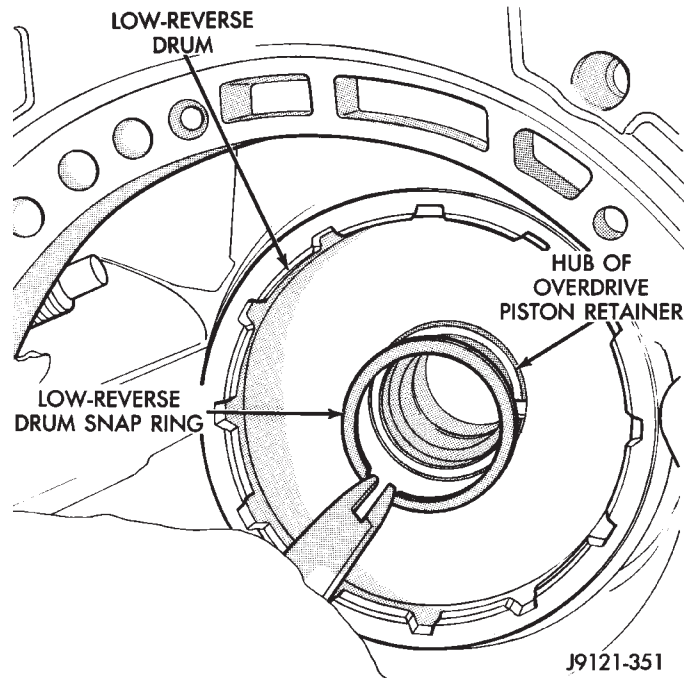

Fig. 119 Installing Low-Reverse Drum Retaining Snap Ring
(7) Install snap ring that secures low-reverse drum to hub of overdrive piston retainer (Fig. 119).